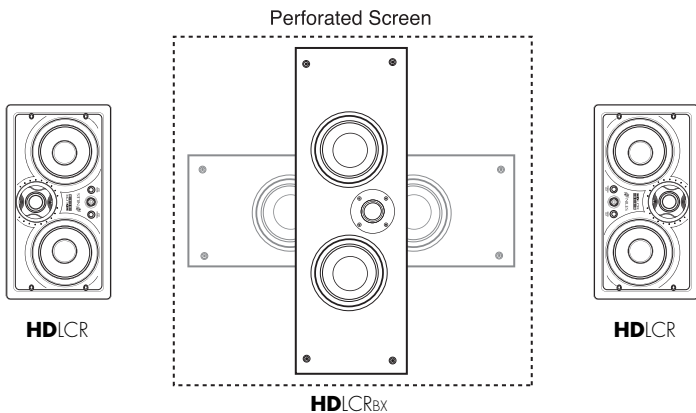

Figure 3. Recommended HDLCRBx center-channel placement behind a perforated projection screen.
- For installations where a perforated projection screen will be used, place the HDLCRBx, either horizontally or vertically, behind the screen at ear level, as shown in **Figure 3**.